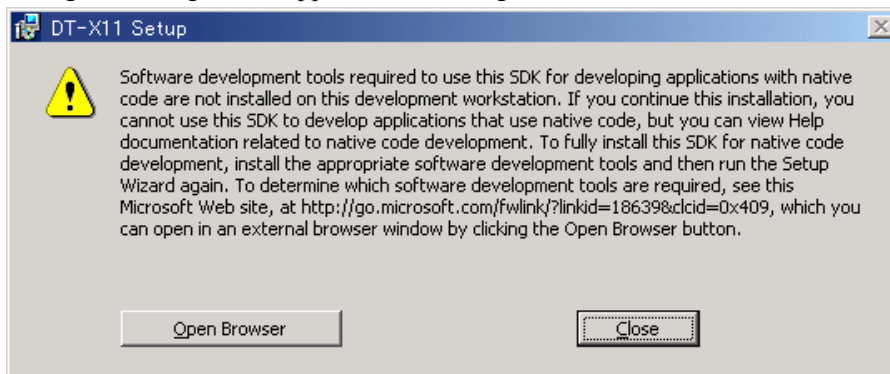

Figure 6.1
3. If **DT-X11\_SDK** is installed when standard SDK has been installed already, the following dialog box in Figure 6.1 appears for warning.